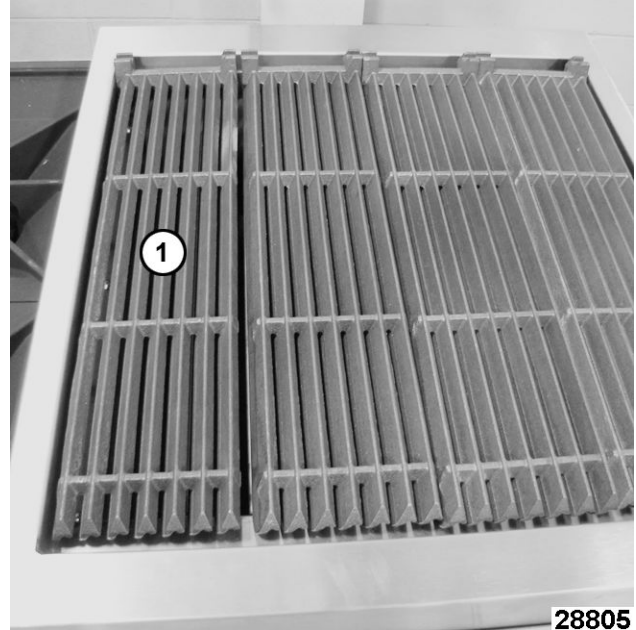

Fig. 89
2. Remove grate (1, Fig. 89) from charbroiler.